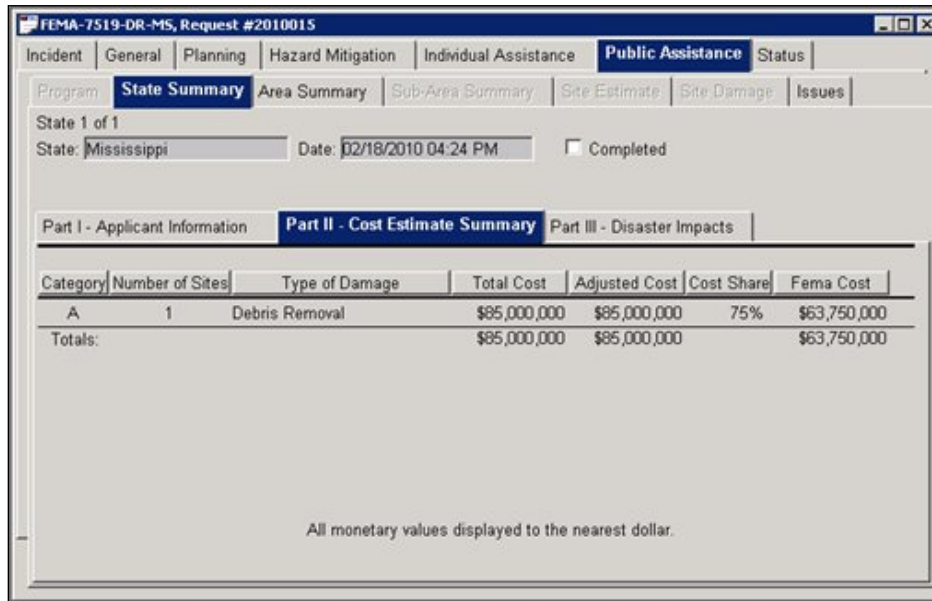

Figure 3-7: PDA > Public Assistance > State Summary > Cost Estimate Summary Tab
- d. Next to **Part I - Applicant Information**, click the **Part II - Cost Estimate Summary** tab. The tab displays Public Assistance Cost Estimate Summary information for the State (Figure 3-7).